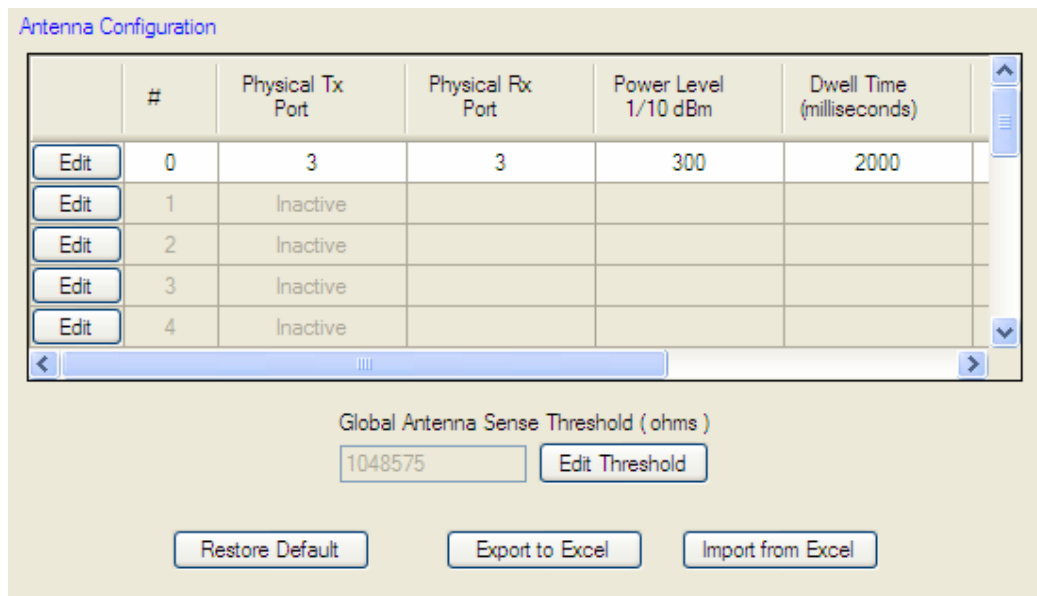

Figure 8 Antenna Configuration
Step 3: The Antenna Ports page is used to configure the reader’s sixteen logical antenna ports. As Figure 8 shows, the screen has a grid which displays the current antenna configuration.